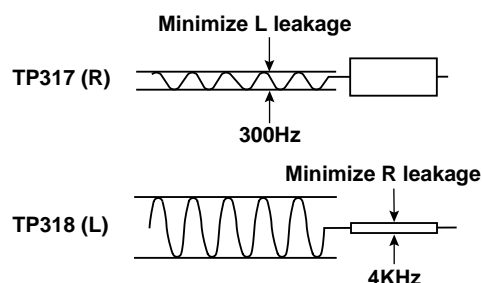

Figure 7. Separation Adjustments
13. Adjust the + or – key for minimum low frequencies at TP317. See Figure 7.
16. Adjust the + or – key for minimum high frequencies at TP318. See Figure 7.